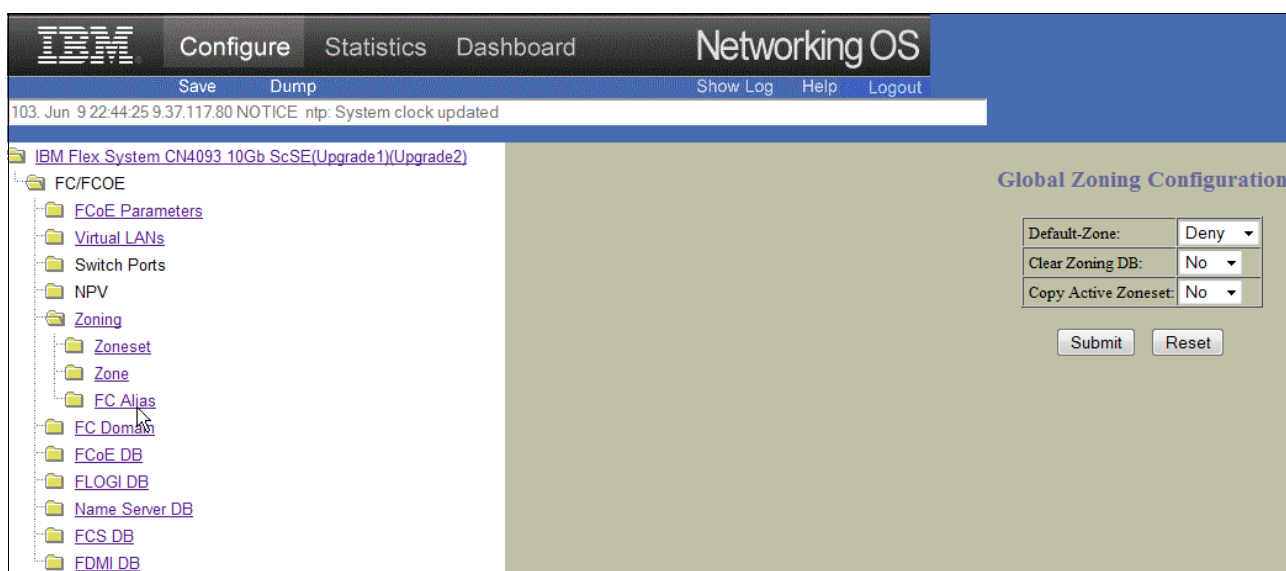

Figure 8-6 Zoning & FC Alias folders
6. Open the **Zoning** folder and click **FC Alias** as shown in Figure 8-6.